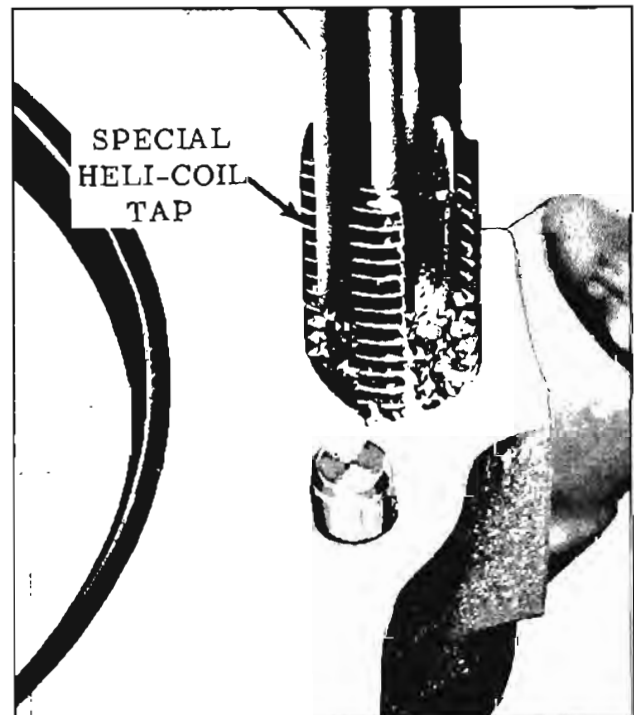

Fig. 8-157 Tapping New Threads
2. Cut new threads using the proper Heli-Coil tap for the size thread being repaired. Use only the special taps furnished in the kit. (Fig. 8-157)